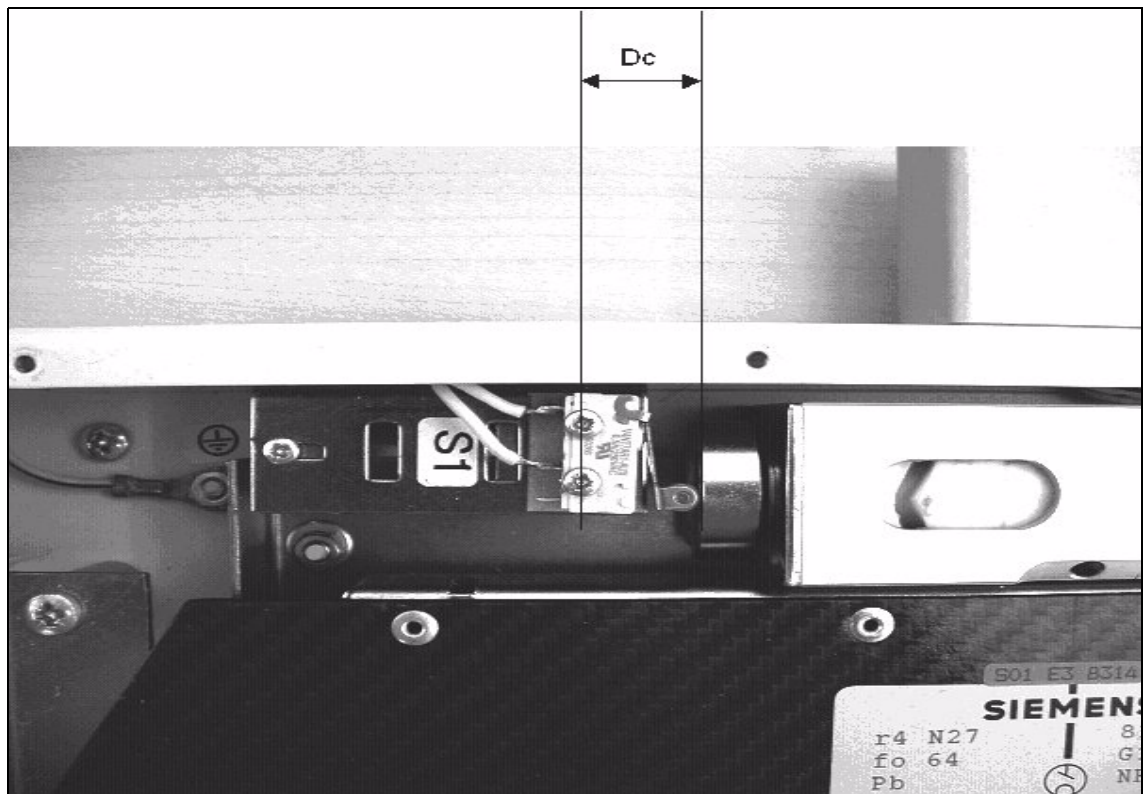

Fig. 5
- Having adjusted the OFF state correctly crosscheck for correct positioning in the ON state, for this turn the cam wheel of the grid drive motor by hand. Proceed according to Figure 5.